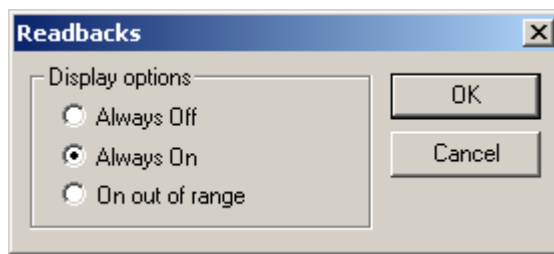

Figure 3-8 Readbacks Dialog Box
1. Select **Options > Readbacks** to open the Readbacks dialog box (Figure 3-8).